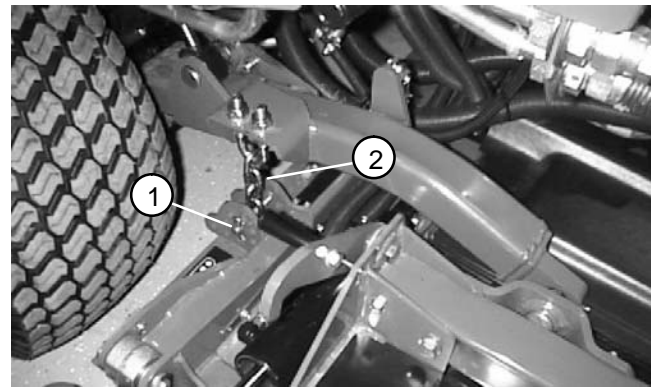

Figure 2
2. Remove hairpins and clevis pins that secure the height-of-cut chains to the rear of the cutting deck (Fig. 2).
4. Install clevis pins and hairpins that secure the height-of-cut chains to the rear of the cutting deck (Fig. 2).